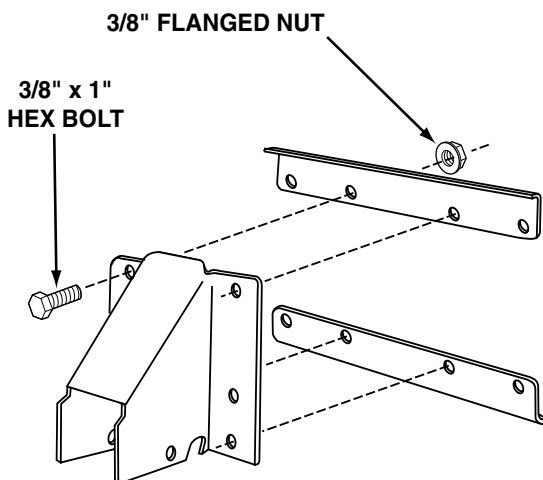

Figure 8
18. Arrange the angle support brackets as shown in figure 8. Assemble the angle support brackets to the pivot support bracket using four 3/8" x 1" hex bolts and 3/8" flanged nuts.
To decrease the spring tension loosen the knob, screw the nut farther out toward the end of the bolt and then retighten the knob. Refer to figure 8 on page 6.